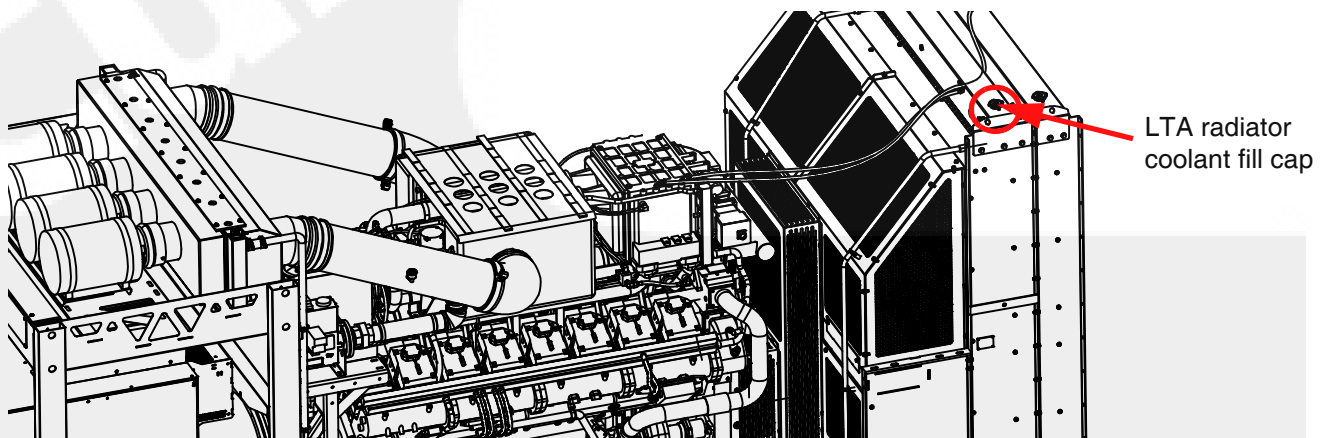

Figure 7-16 LTA radiator coolant fill cap (GenSet right side)
3. As shown in Figure 7-16, twist the LTA fill cap counter-clockwise and open the LTA radiator fill port.